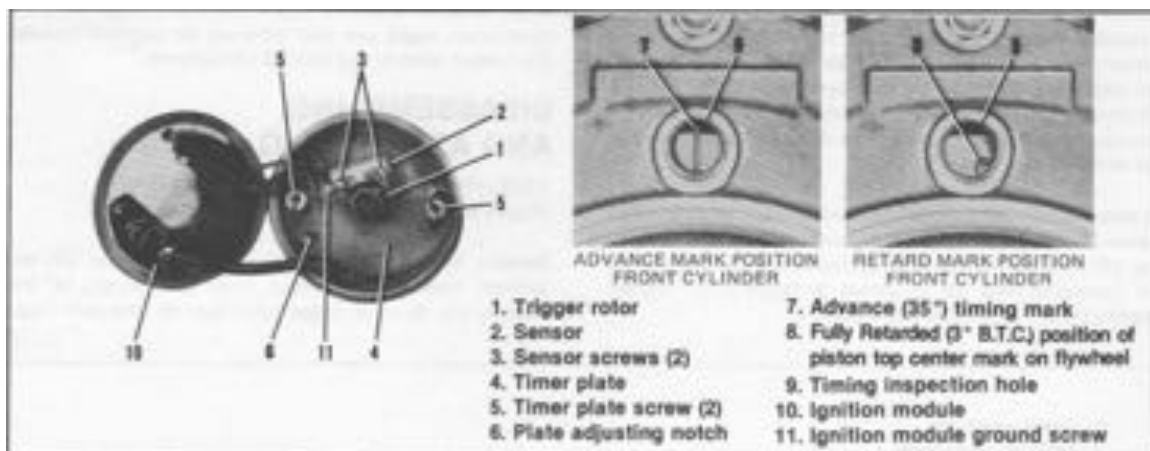

Figure 5-19. Ignition Timer and Flywheel Timing Marks
### ADJUSTING SENSOR AIR GAP (See Figure 5-19)
#### CHECKING ADVANCE TIMING WITH STROBE TIMING LIGHT (Figure 5-19)
#### SETTING RETARDED TIMING WITH CIRCUIT TESTER (See Figure 5-19)
Loosen timer plate screws (5) just enough to shift timer plate (4) using a screwdriver in notch (6), so light goes on or off when piston top dead center timing mark is aligned in inspection hole (9) as shown in figure 5-19. Tighten screws (5) to 12 to 16 in.-lbs. torque.